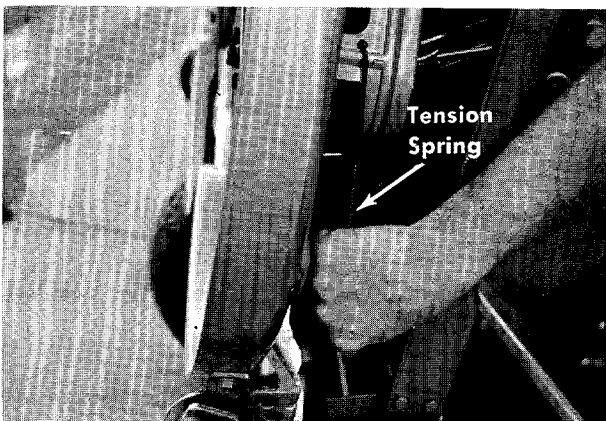

FIGURE 25. REMOVING TENSION SPRINGS
- Step 5. Unhook the tension springs on both sides of the deck. See figure 25.